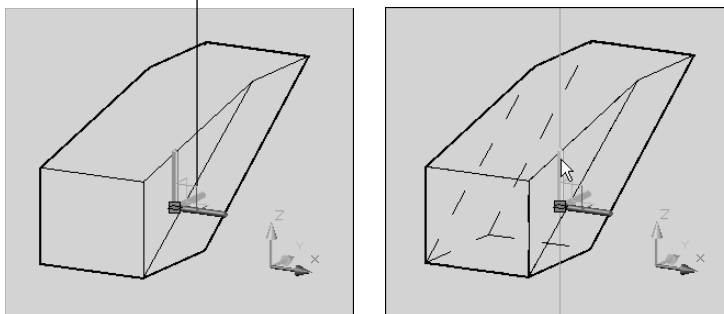

**Figure 24-33:** Use the move grip tool to interactively move objects.
When moving objects in 3D space, it's often hard to visualize the direction in which an object is moving as you drag it. You can use the regular MOVE command to move objects in any direction, X, Y, or Z, but entering the coordinates can be awkward. Instead, you can use the new move grip tool, with or without executing the 3DMOVE command, to interactively move objects in 3D space. Figure 24-33 shows the move grip tool.
2. Pass the cursor over any grip (but not an arrow); the move grip tool jumps to that grip, as shown on the left side of Figure 24-33. This temporarily places the origin of the UCS at that point.
- **To constrain the selected object along one axis**, pass the cursor over that axis until it turns yellow and you see a line extending to the edge of the screen on either side, as shown on the right side of Figure 24-33. Click on that axis; now you can move the object only along that axis line. Drag the object in the positive or negative direction along the line. You can use direct distance entry to move the object a specific distance, or just click where you want the grip to be.
- **To constrain the selected object along one plane**, pass the cursor over the right-angle indicator at the intersection of any two axes (see the left side of Figure 24-33), until it turns yellow. Click on that right-angle indicator; now you can move the object only in that plane. Move the object in the desired direction. You can enter a relative coordinate or click where you want the grip to be.